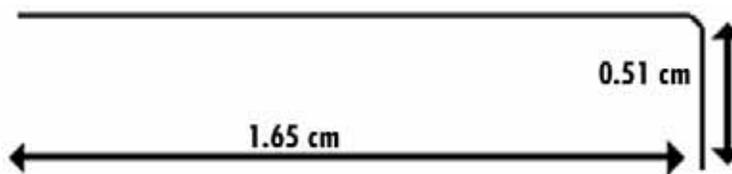

Figure 145 Pogo electrode
Contact between the working electrode (WE) on the sample plate and the sample itself is typically accomplished using the L-shaped pogo electrode included with the system (Figure 145). The pogo contacts the sample through a separate access hole outside of the liquid cell chamber. Since it is not in contact with the electrolyte it does not require special cleaning. A wire made to the same dimensions can be used in place of the pogo.